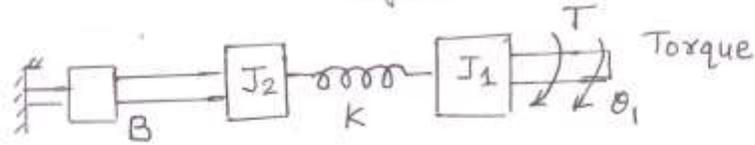

Fig 1 (C)
- (c) Determine the system equations for the physical system shown in figure 1.c **07**